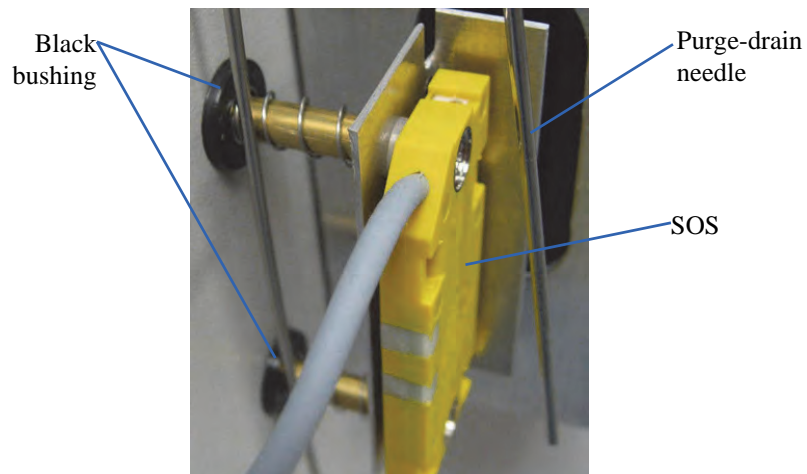

Figure 10.8. Inserting the SOS brass standoffs into the black bushings
4. Orient the SOS with the LEDs and cable on the left side (Figure 10.8). Carefully insert the brass standoffs into the two black bushings located behind the purge-drain needle.